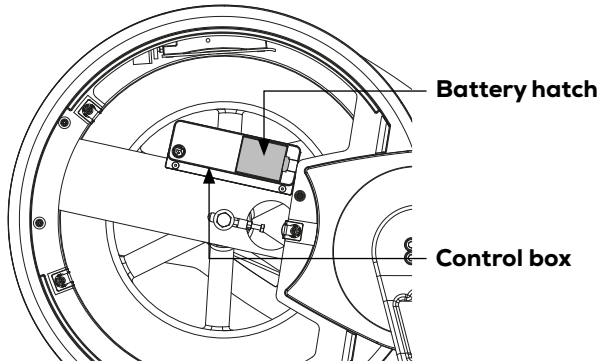

Figure 25
2) Remove the battery hatch on the control box and replace the three AA batteries, see figure 25. They should be minimum 1.5V and they must not be rechargeable.